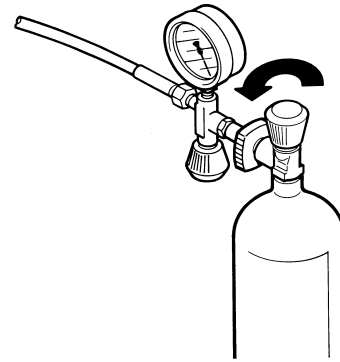

Abb. 7 Connecting air bottle
- Connect air bottle to filling valve (see Abb. 7).